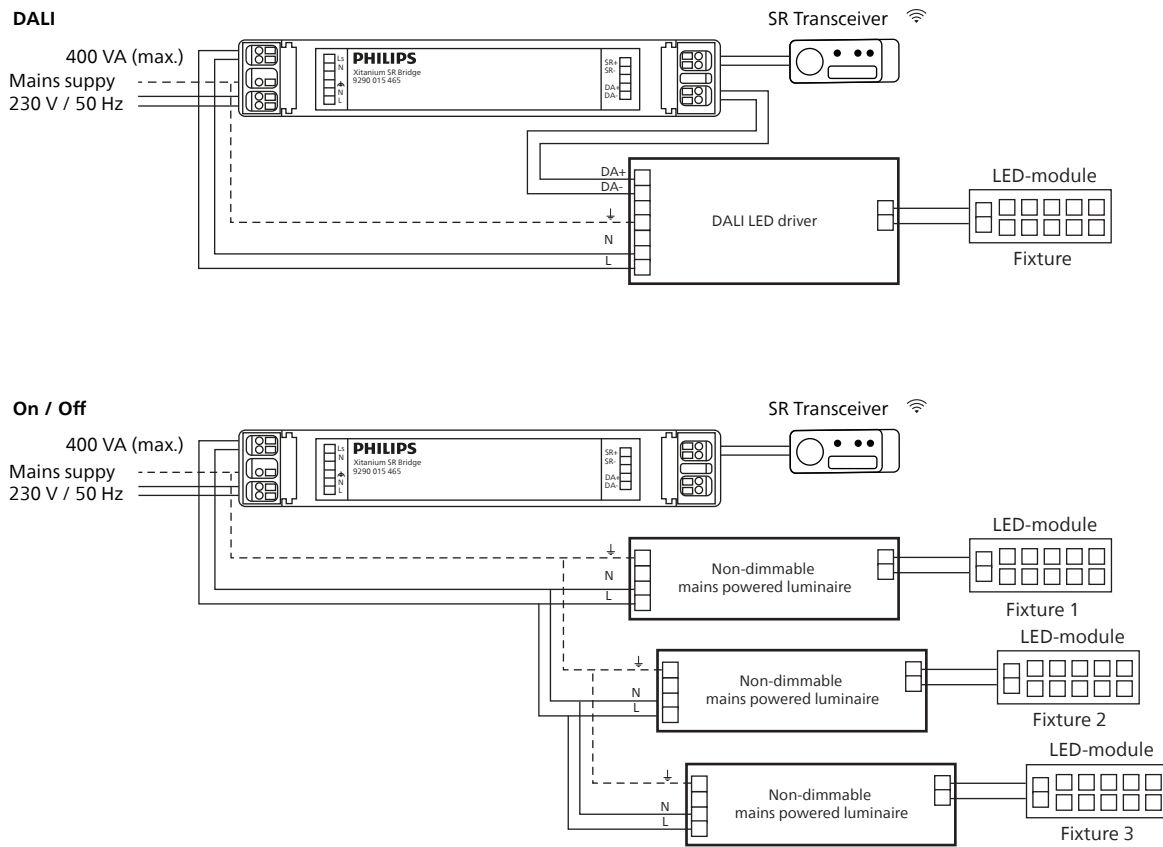

Figure 1
A typical application for the Xitanium SR Bridge is to connect the SR Bridge to a single Philips Xitanium DALI driver and the SR (RF) wireless transceiver (see Figure 1).